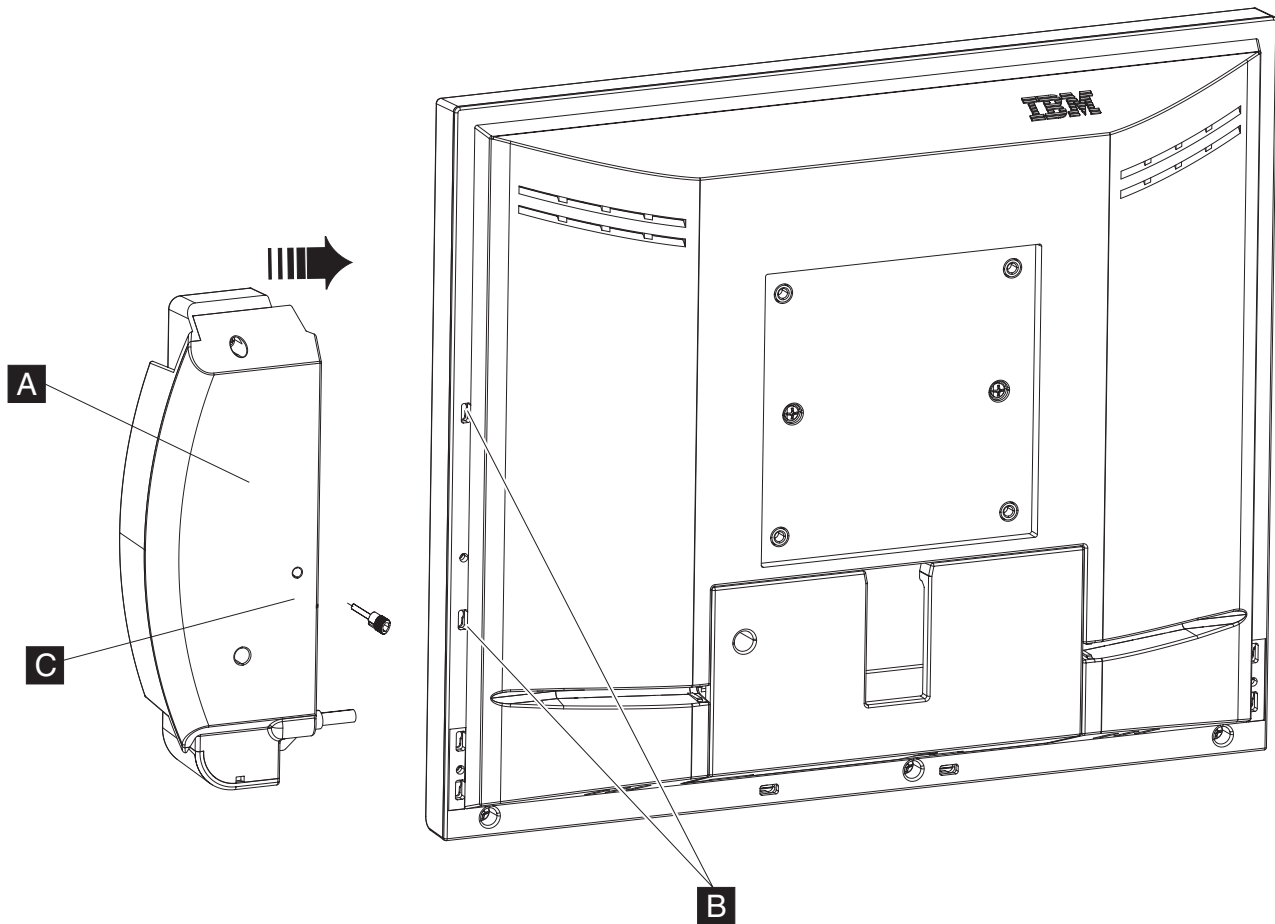

Figure 23. Attaching the magnetic stripe reader
2. Align the MSR (**A** in Figure 23 on page 26) so that the metal knob connectors are slightly above their matching slots **B** on the 4820.